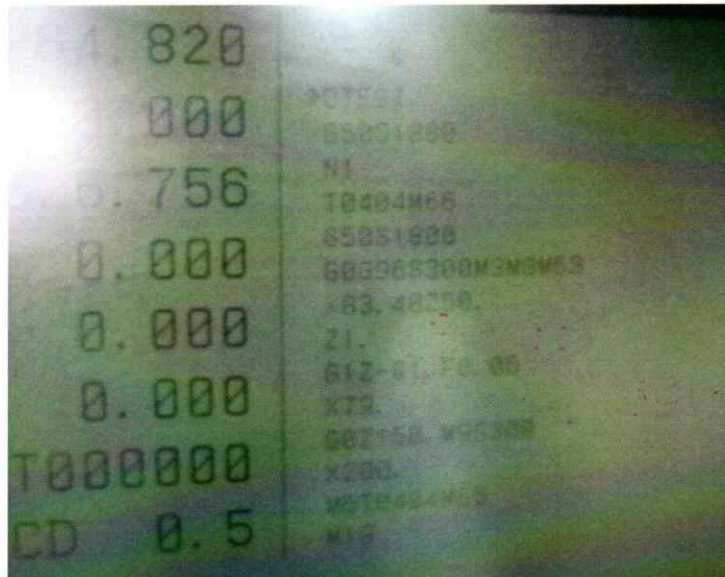
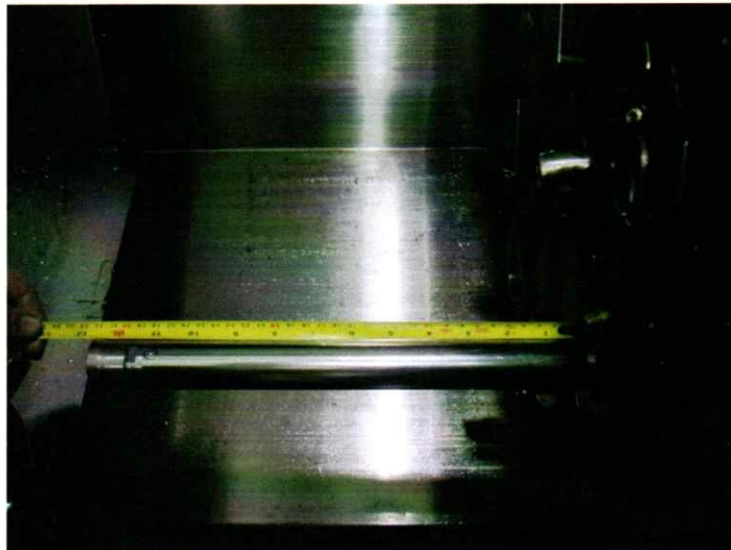
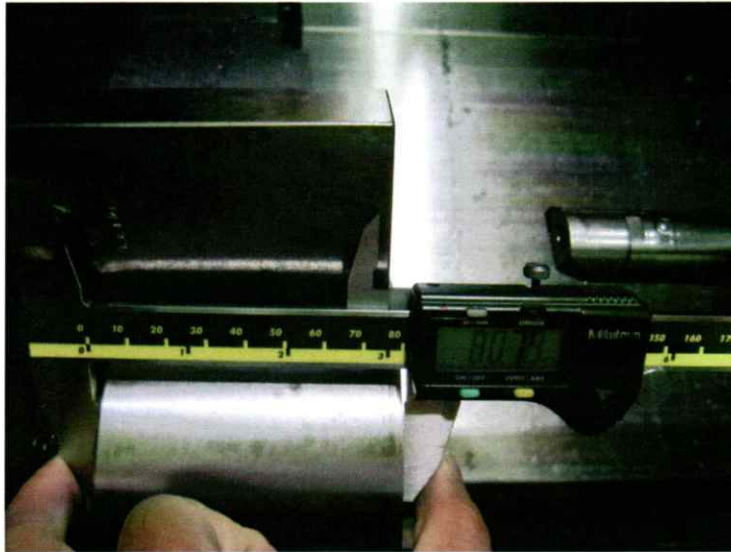

Figure 3-1-1 Machining program
Figure 3-1-2 Tool overhang
Figure 3-1-3 Machining depth of inner diameter of the workpiece in the axial direction (i.e. length of the workpiece)
- (1) Clamp the workpiece onto the spindle, and mount the tool onto the turret side.
- (2) Edit the machining program in the controller. The program contains the speed of spindle, feed rate, and radial position of machining, etc., during the machining. The speed of spindle S is 300m/min, the feed rate F is 0.06mm/rev, and the radial position of machining is 80mm, as shown in Figure 3-1-1.
- (3) Execute the machining program. When machining, the axis Z starts from the position of $Z1.0$ to $Z-81$ at the feed rate $F0.06$ to travel through the workpiece in order to complete the radial machining of inner bore. After the machining, retract the tool to the position of $X200$ and the position of $Z150$.
- (4) Measure the tool overhang (from the plane of the tool holder to the machining point of the tool) with the measuring tape. Measure the machining depth of inner diameter of the workpiece in the axial direction with the vernier caliper. The machining depth of internal diameter of the workpiece in the axial direction is the length of the workpiece, as shown in Figure 3-1-2 and Figure 3-1-3.
- (5) The inspection result of distance range of inner diameter of the workpiece is:
the tool overhang is 320mm (as shown in Figure 3-1-2), and the machining depth of inner diameter of the workpiece in the axial direction is 80.79mm (as shown in Figure 3-1-3).